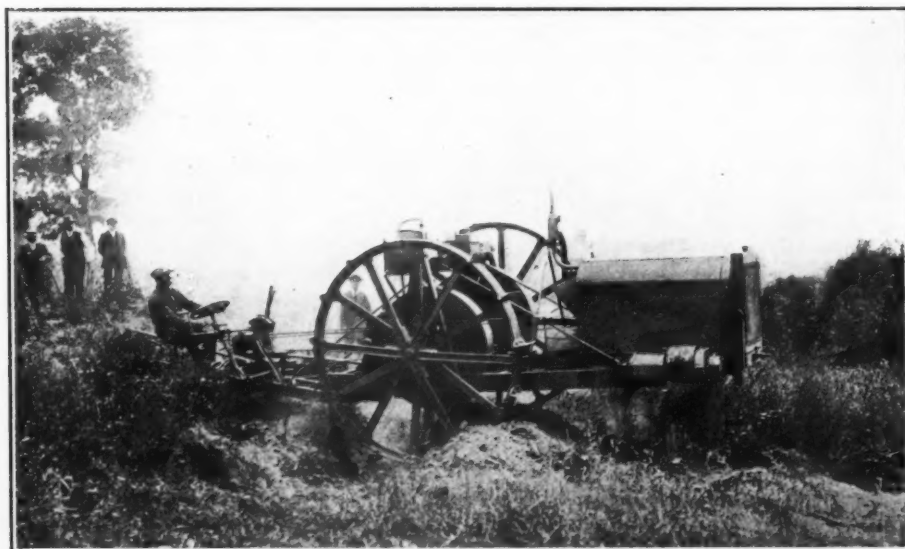

Fig. 1—Motor plow made by the Stock company in the act of crossing a wash-out. The most successful motor implement made in Germany for estates of moderate size
(8) It was brought out that the weight of the Ihace motor plow (American) had gradually been increased from a weight of 6,000 to one of 9,000 kilograms and its power from 30 to 90 horsepowers, which was not a favorable indication for light motor plows, though it might simply indicate that the market as yet lies with the very great estates. Examples were mentioned of cases where the Stock motor plow (German), of which it is said that 100 to 200 have been sold during the past three years, failed at deep plowing (10 inches) and failed likewise, only more pronouncedly, where the soil was full of stones; yet under other circumstances it gave very good and profitable service. A manufacturer observed that the design by which rotary disks or soil millers were used and the work of plowing was in itself utilized also for propulsion—the rotary tools turning in the same direction as driving wheels—had been proved satisfactory and solved the question of adhesion, weight and gripping irons on the wheels.
(9) The remarks made on the motor question were not illuminating, except to show that weights and speeds constituting a low-class engine are still preferred in Germany, partly in view of the inexperience of the rural workmen in handling motors and partly because little has been done to absorb the damaging shocks received when the plow runs against a stone. In the Stock plow the motor is one of 40 horsepowers working best at about 600 revolutions per minute and relatively light. By suspending it far in front of the driving wheel axle, as shown in the illustration, Fig. 1, its entire weight is made to safeguard the adhesion of the wheels, which also are equipped with 3 exchangeable sets of gripping-blades, and the plow, comprising six shares, balances against this weight to the rear and can moreover be loaded to increase the adhesion. [This feature of the Stock plow, which also is valuable for crossing ditches and mounds, is being imitated, for example in the single-share 4-horsepower motor plow produced by Wyles Brothers of England.]